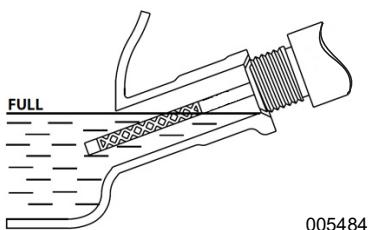

Figure 4-2. Safe Operating Range
5. See **Figure 4-2**. To check oil level, insert dipstick into oil filler neck without screwing it in.
9. See **Figure 4-2**. To check oil level, remove funnel and insert dipstick into oil filler neck without screwing it in.